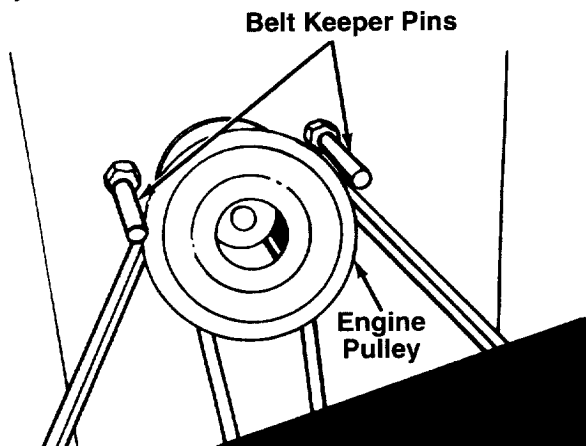

FIGURE 18.
NOTE: Figures 18 and 20 are shown with the unit tipped up for clarity. It is not necessary to tip the unit to remove the belts.
NOTE: When reassembling, make certain belt keeper pins are assembled in the same locations from which they were removed. See figure 18.
4. Remove the belt keeper pins from the lower frame. See figure 18.